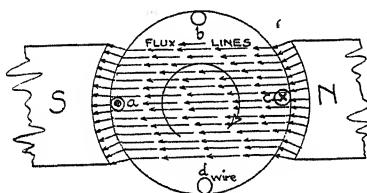
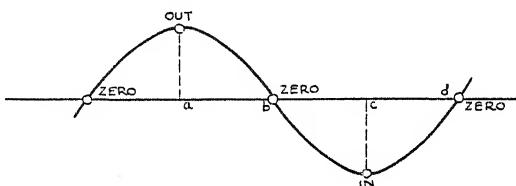

FIG. 68. All generators develop a.c. in their armatures.
FIG. 69. The graph of an alternating current.
78. Producing Alternating Current. Strange as it may at first seem, all generators, whether d.c. or a.c., really generate only a.c. inside the armature. Examine Figure 68, and the reason for this will soon be seen.
In Experiment 27, it was shown that when a wire moves upward through flux, as at *a* in Figure 68, the current will flow out of the wire as shown. The very same thing is true of a wire on an armature, turning in a clockwise direction, as in Figure 68. If the flux (*N* to *S*) is as shown, by applying the Right-Hand Rule for generators, the current is seen to flow as shown at *a*.
current in the wire. Now the generated current will flow into the page in Figure 68, position *c*. Check this with the Right-Hand Rule for generators.
| a | out of page (Fig. 68) |
81. The Commutator as an Automatic Switch. Examine Figure 68 again. Notice that when the wire turns from place *a*, to *b*, to *c*, to *d*, and to *a* again, and so on, an alternating current is generated. This whole story can best be shown by a graph, as in Figure 69. In this graph, which refers also to Figure 68, the + side of the curve represents current out of the page in Figure 68, and the — side of the curve represents current into the page in Figure 68.